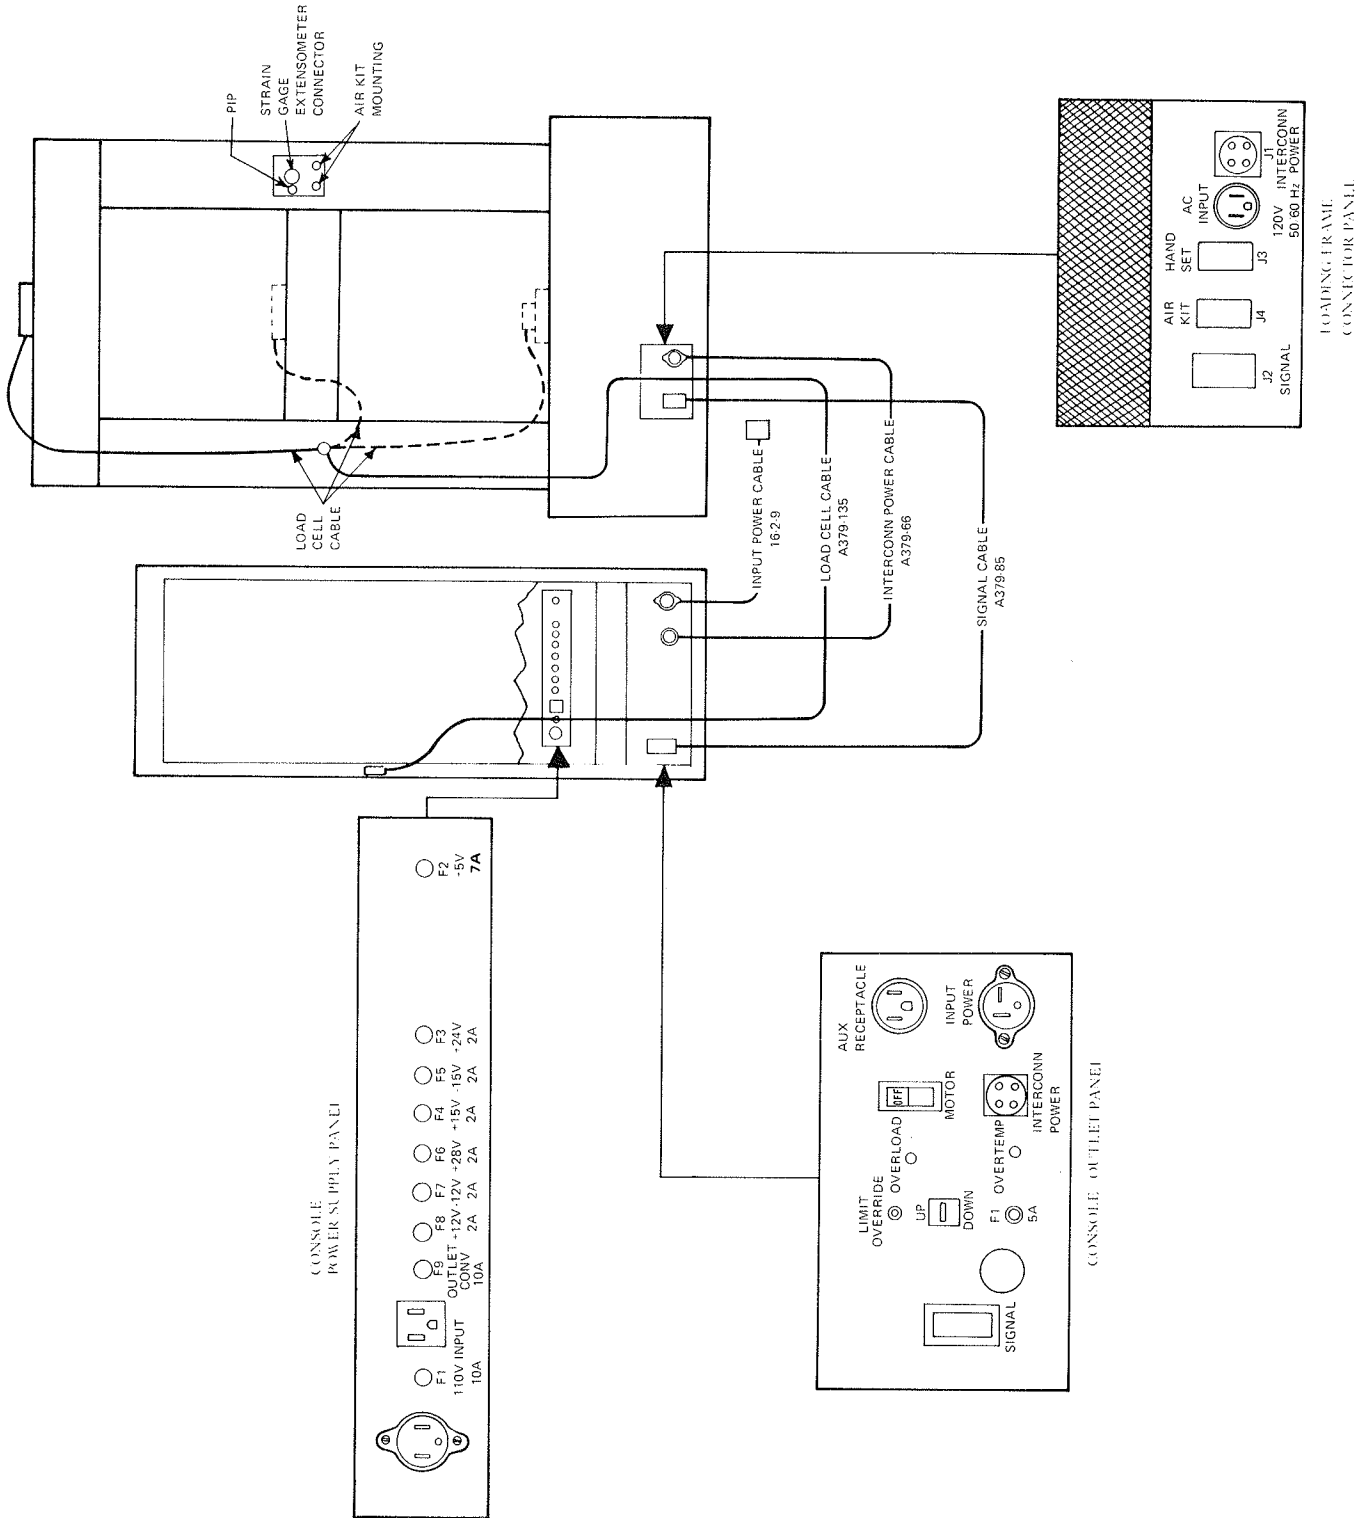

Figure 5-1. Model 1125 Installation (Rear View)
The cabling essential for interconnecting the two units of the 1125 instrument is shown in figure 5-1. Not shown is other cabling supplied for optional accessories that may be included with the original equipment.
- c. Plug load cell cable male connector into receptacle located on rear of console about midway on left-hand side. Mount other end of cable in retainer clip on loading frame column. Leave slack in cable to reach any of three possible operational positions of load cell, as shown in figure 5-1.